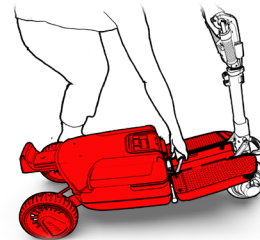

Figure 10
- Gently move the handle down until ATTO's base is flat (see Figure 10).